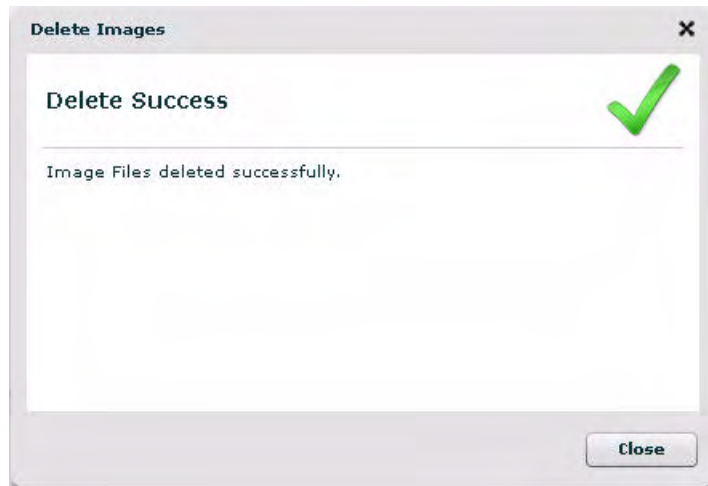

FIG. 133 Delete Images dialog
6. The application notifies you that the selected file(s) have been deleted (FIG. 133):